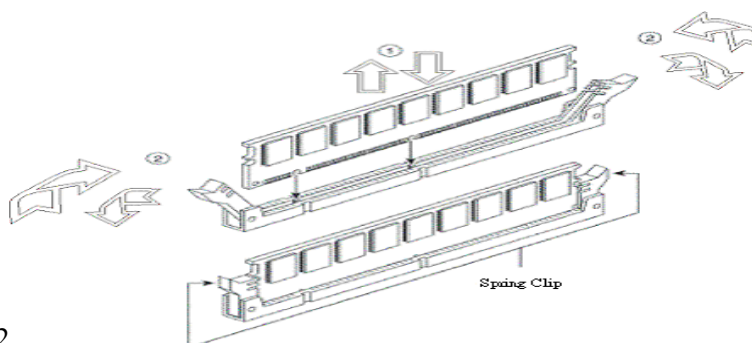

Fig.2
Step4: Hold both sides of the router cover and take it out in the upward direction as shown in fig2 below
- Step2: Close the joint edge of the router cover as shown in fig2 above
4. Release the locking spring clips on both sides of SDRAM DIMM with your thumbs carefully (as shown in Fig.2 below). When SDRAM springs out of its slots, you can pull out the original SDRAM vertically (as shown in Fig.2).
5. To insert new SDRAM into the SDRAM DIMM slot make the golden finger edge of the new SDRAM downwards as show in fig 2 above. Hold the top edge of the SDRAM with your forefingers and thumbs and insert it into the SDRAM DIMM slot vertically. The two notches of the SDRAM fit into the two bulges in the SDRAM DIMM slot (as shown in Fig.2).
6. Shut the locking spring clips on the both ends of SDRAM DIMM slot to fix the SDRAM (as shown in Fig.2)